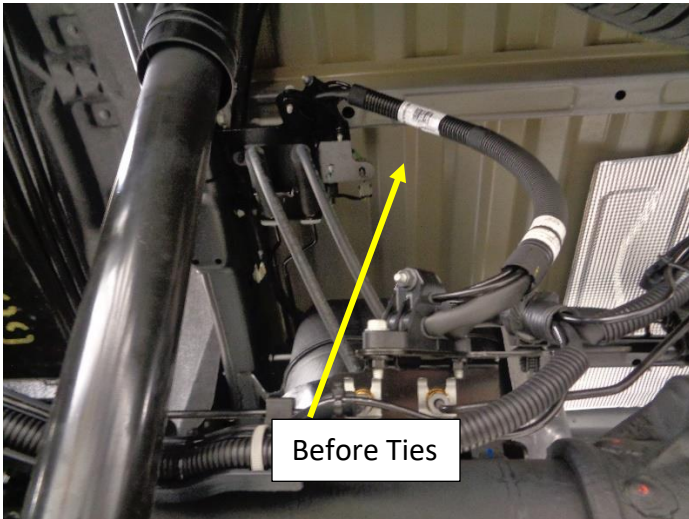
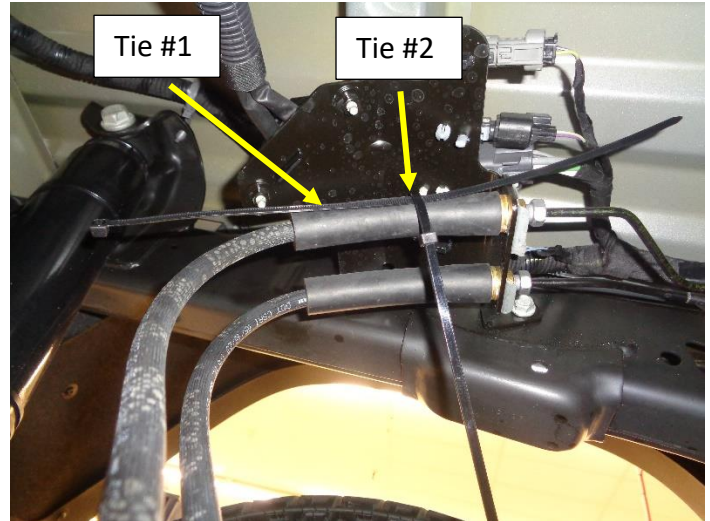
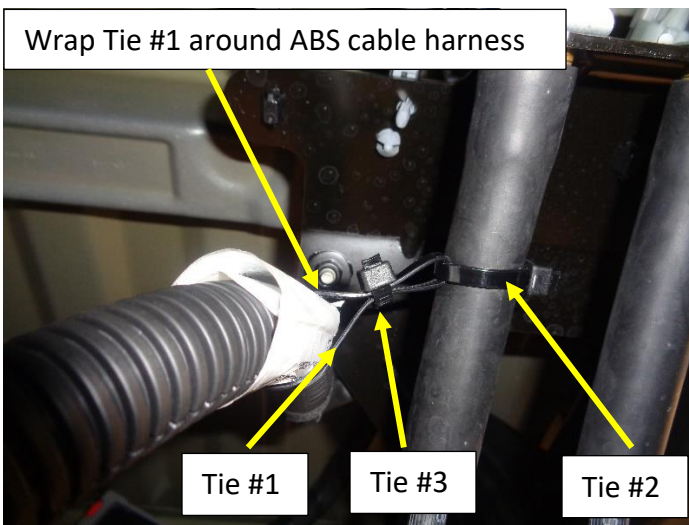
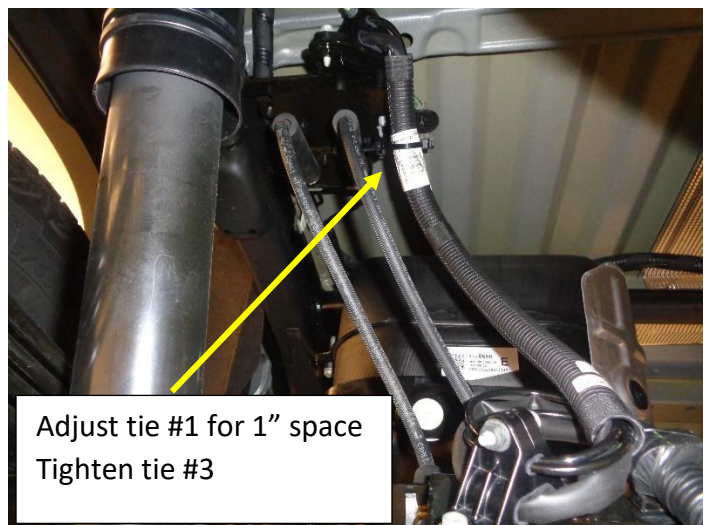

Figure 8
Figure 9
Figure 10
Figure 11
14. Use the supplied cable ties (13) to tie back the ABS cables to the brake hose, as shown in Fig. 8, Fig. 9, Fig. 10, and Fig.11.